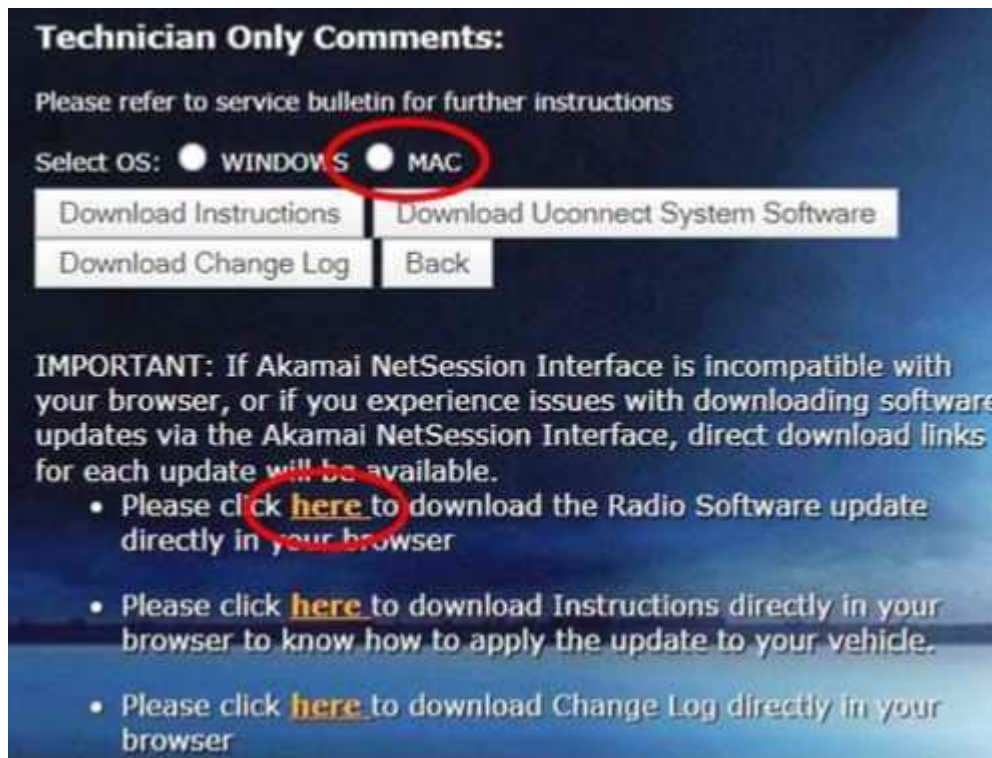

Fig. 3
5. Download the software update file to your local PC’s desktop. Make sure to select the “MAC” radial button for all downloads (Fig. 3) .